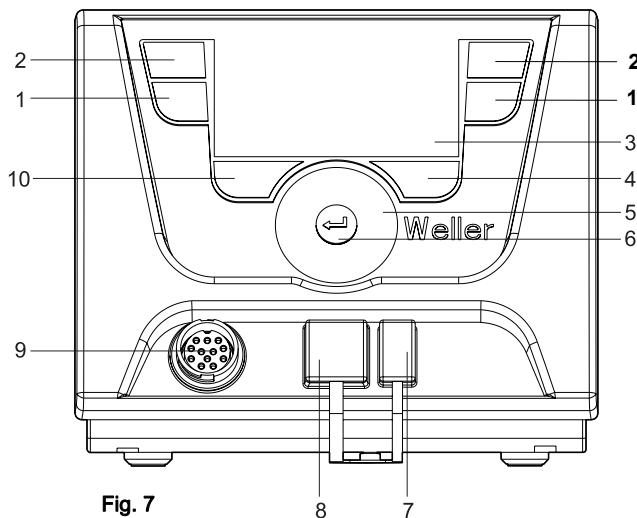
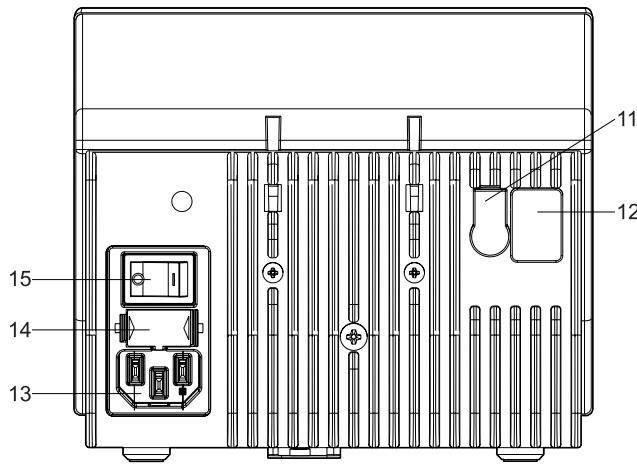

Fig. 7
Fig. 8
Please observe the overview diagrams (Fig. 7 and Fig. 8, page 10).
*) see also overview diagrams (Fig. 7 / Fig. 8, Page 10).